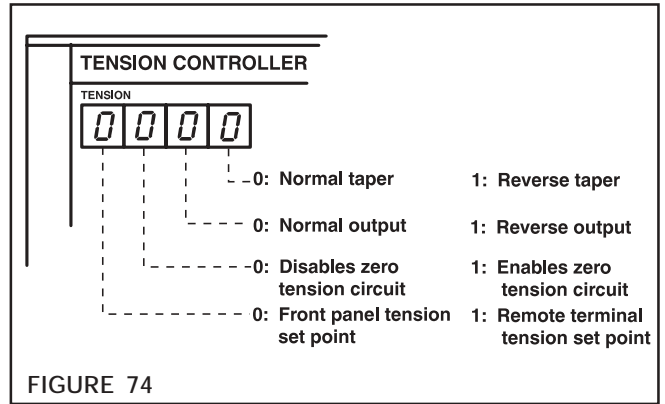
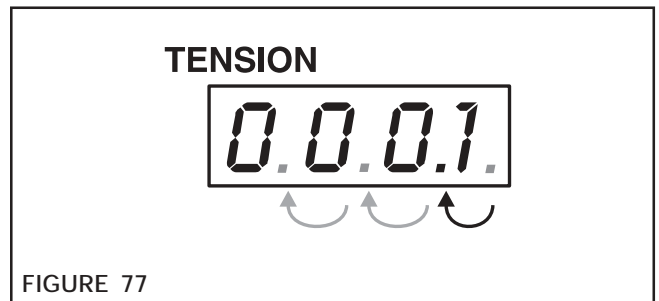

FIGURE 74
FIGURE 77
The setting of the MODE functions allows four internal control parameters to be defined (See Figure 74).
1. Press the **MAN**ual Key to select Taper (0 for Normal Taper and 1 for Reverse Taper) (See Figures 74 and 75). This value is indicated on the furthest right digit of the Tension Indicator (See Figure 77).
3. Press the **MAN**ual Key to select Output (0 for Normal Output and 1 for Reverse Output) (See Figures 74 and 75).
5. Press the **MAN**ual Key to select Tension Error circuitry (0 disables Tension Error circuitry and 1 enables Tension Error circuitry) (See Figures 74 and 75).
7. Press the **MAN**ual Key to select the Set Point input (0 allows tension Set Point control from the AUTO Keys on the front panel and 1 allows Set Point control from the external set point Terminals 23 and 24) (See Figures 74 and 75).